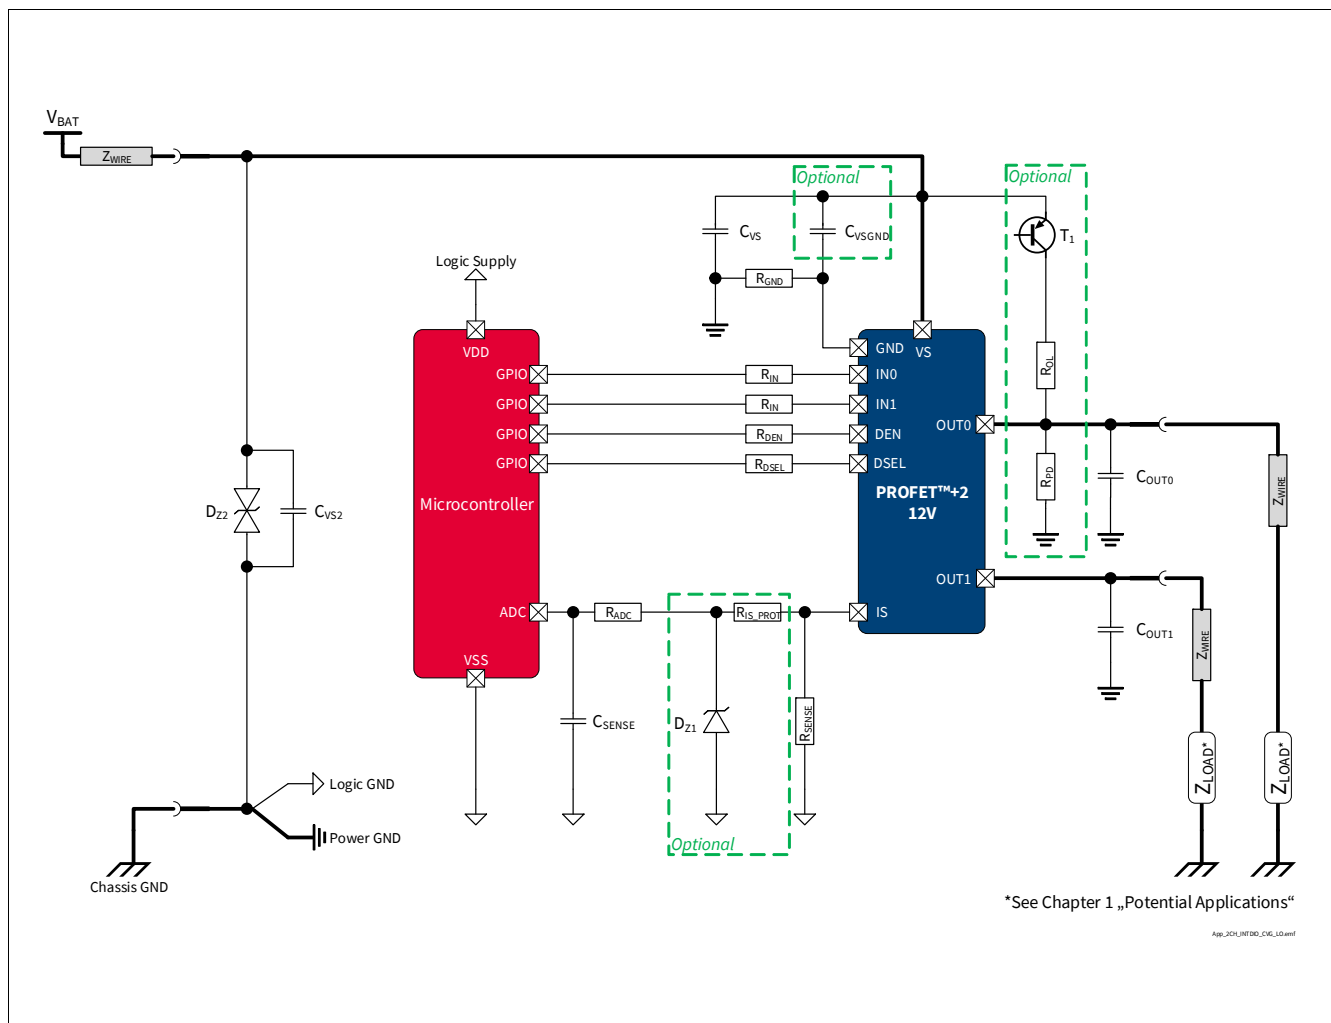

Figure 43 **BTS7040-2EPA Application Diagram**
1.05 , 2019-10-15	P_8.7.6.1, P_8.7.6.7, P_8.7.6.8 updated (added in Note or Test Condition: link to Figure 25) P_8.7.6.6 updated (added in Note or Test Condition: link to Figure 26) P_7.5.6.4, P_7.5.6.5 updated (added in Note or Test Condition: DEN = “low”; link to Figure 19) P_7.5.6.12 updated (added in Note or Test Condition: see Figure 21 ; deleted unnecessary space in Symbol: dVOUT / dt → dVOUT / dt) P_9.7.6.1 updated (added in Note or Test Condition: See Figure 34) P_9.7.6.6 updated (Min./Typ./Max.: -40%/1800/+40% → -26.0%/1750/+26.0%) P_9.7.6.8 updated (Min./Typ./Max.: -35%/1800/+35% → -23.5%/1750/+23.5%) P_9.7.6.9 updated (Min./Typ./Max.: -30%/1800/+30% → -20.5%/1750/+20.5%) P_9.7.6.12 updated (Min./Typ./Max.: -26%/1800/+26% → -19.0%/1750/+19.0%) P_9.7.6.15 updated (Min./Typ./Max.: -11%/1800/+11% → -9.7%/1805/+9.7%) P_9.7.6.17 updated (Min./Typ./Max.: -6%/1800/+6% → -6.0%/1805/+6.0%) P_9.7.6.19 updated (Min./Typ./Max.: -5%/1800/+5% → -4.5%/1805/+4.5%) P_7.5.6.11 updated (added in Note or Test Condition: see Figure 19) Figure 1 , Figure 43 updated Chapter 1 updated (or LED equivalent → or equivalent electronic loads (e.g. LED modules)) P_4.3.0.7 added Table 24 updated Chapter 5.1 updated (added: see Chapter 10 for the complete application setup overview)